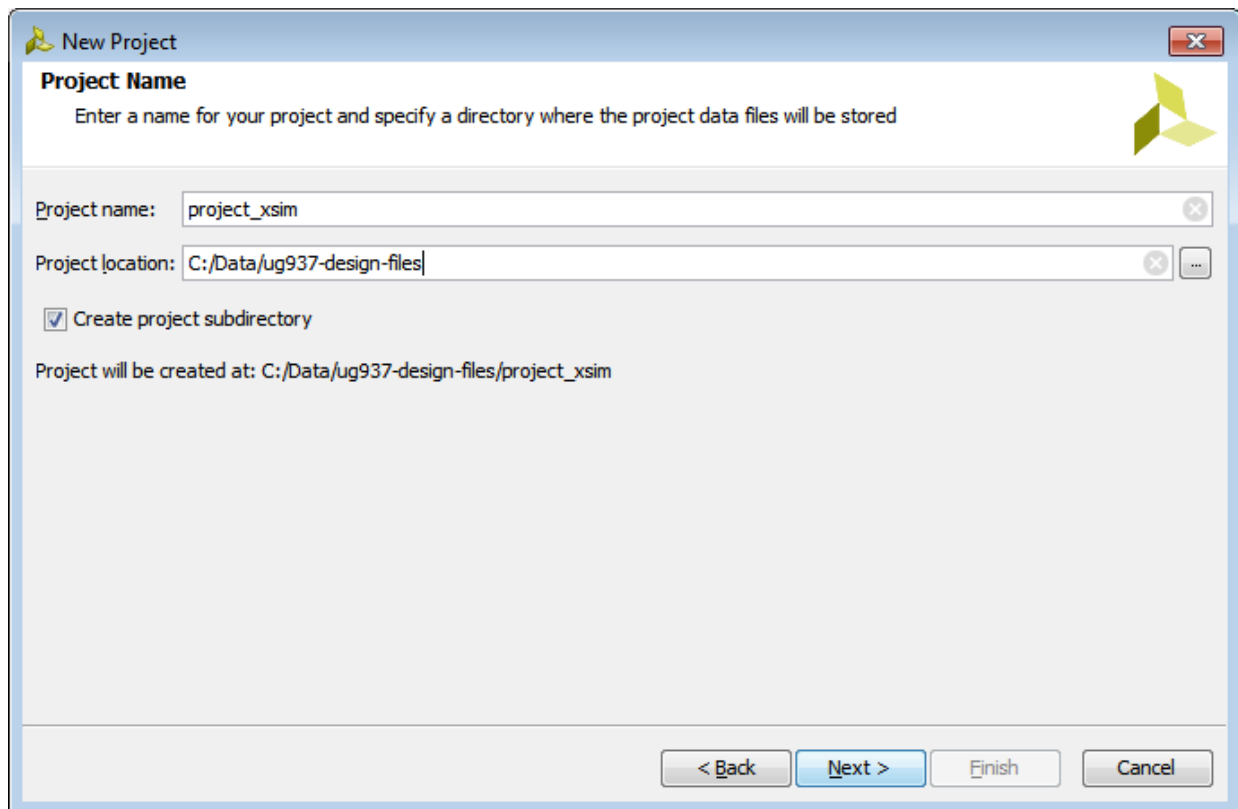

Figure 3: Create Project
4. For the **Project Location**, browse to the folder containing the extracted tutorial data, `<Extract_Dir>`. Make sure to check the **Create project subdirectory** option and click **Next**. (Figure 3).